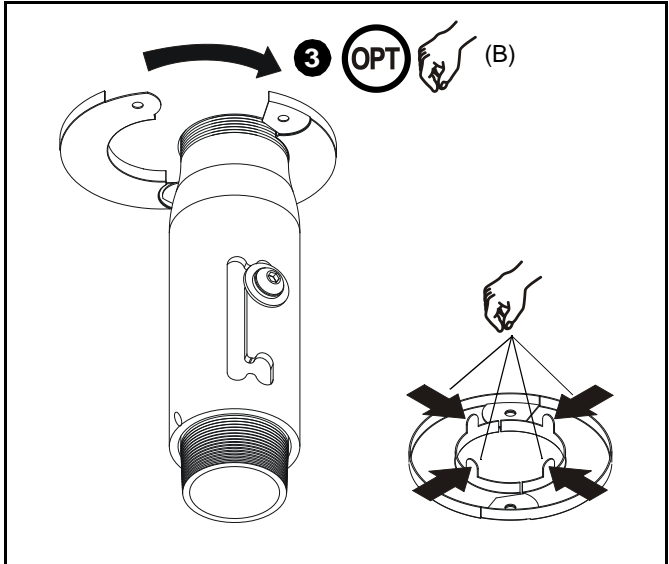
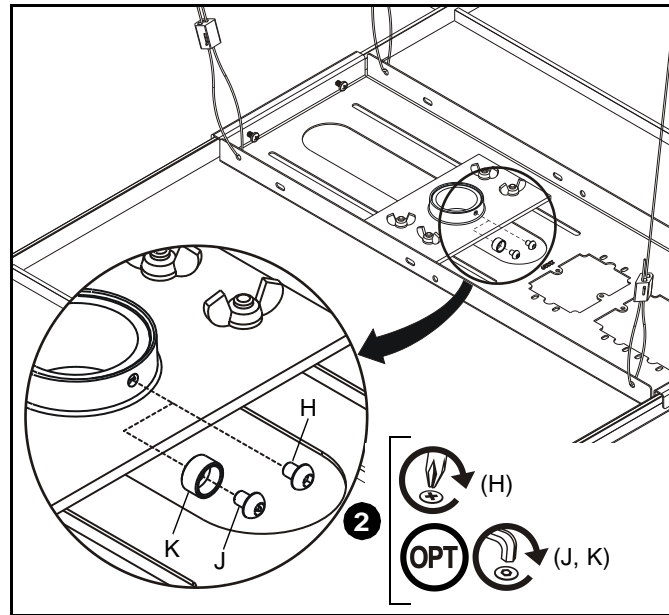

Figure 11
Figure 10
2. Using hex key (L), secure extension column by *one* of the following methods (See Figure 10):
- Install screw (H) into extension column support, tightening firmly against column.
- **OPTIONAL:** Install security screw (J) through locking collar (K) into extension column support, tightening firmly against column.
**NOTE:** Locking collar (K) is designed to spin, even when screw (J) is tight.
3. Install finishing ring (B) on extension column below ceiling tile (See Figure 11). If necessary, bend four tabs inward to secure ring to column.